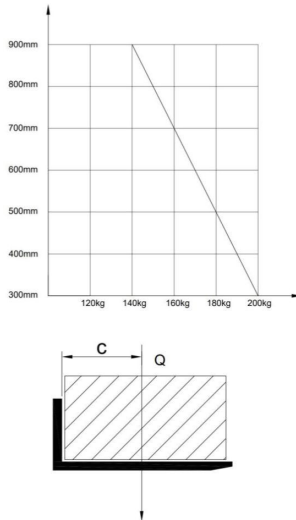

Figure 1
1. The fork-lifting height is inversely proportional to the load capacity (as shown in Figure1). When the distance between the fork and the ground $Q \geq 300\text{mm}$, the load capacity gradually decreases.